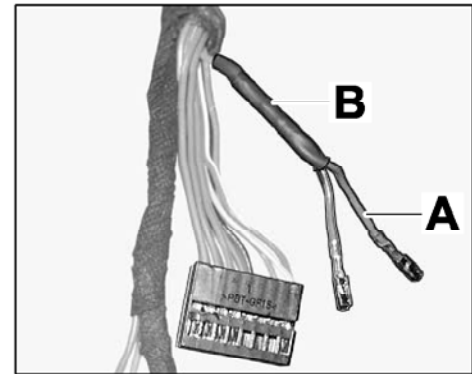

Figure 8
- 3.5.2 Crimp micro-quad lock (999.652.901.22)  $\Rightarrow$  *Figure 8-A* at one end of the additional electric line 0.352.
- 3.5.3 Connect the other end of the additional electric line 0.352 as a splice  $\Rightarrow$  *Figure 8-B* to the electric line RD/GN 0.352 from **chamber 2** (30G).